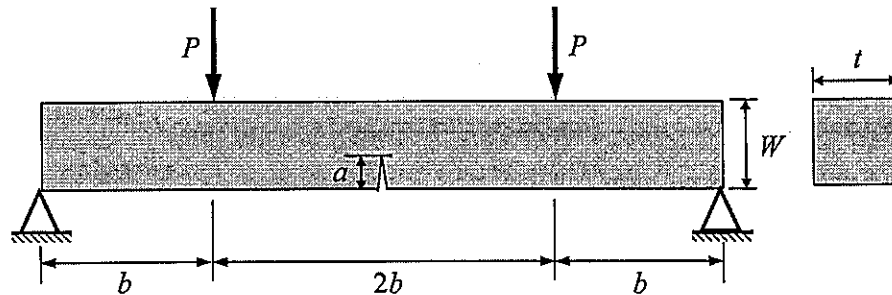

Figure 4
- (b) A beam of width $W = 50$ mm and thickness $t = 50$ mm is subjected to 4-point bending as shown in Figure 4 where $b = 100$ mm. At the mid-section of the beam, there is a through edge crack of depth $a = 5$ mm on the bottom surface. The fracture toughness of the material is $K_{Ic} = 50 \text{ MNm}^{-3/2}$. Assume linear elastic fracture mechanics holds.
- (ii) If the load P in Figure 4 fluctuates sinusoidally between 0 and 60 kN once every day, determine how many years it will take for the crack to grow in length by 20%. Assume the geometry correction factor (Y) to remain constant at the value you calculated in part (i). Use Paris law $da/dN = C(\Delta K)^m$ for this calculation where da/dN is in m/cycle and ΔK is in $\text{MNm}^{-3/2}$, $m = 3.5$ and $C = 0.25 \times 10^{-11}$.